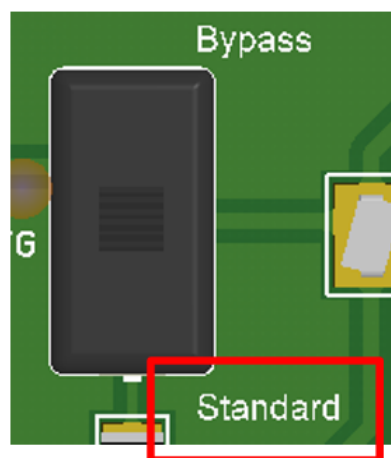

Figure 39. Bypass vs Standard = 'Standard'
- Set this switch to "Standard" (the "Bypass" setting is for designs that did not use TI's programming board for the solution) as shown in Figure 39